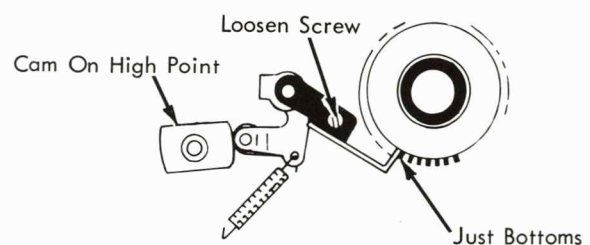

FIGURE 32. Shift Interlock
- a. With the shift interlock on the high point of the cam, adjust the interlock by its adjusting screw so that the tip just bottoms between two teeth on the shift clutch ratchet (Fig. 32).